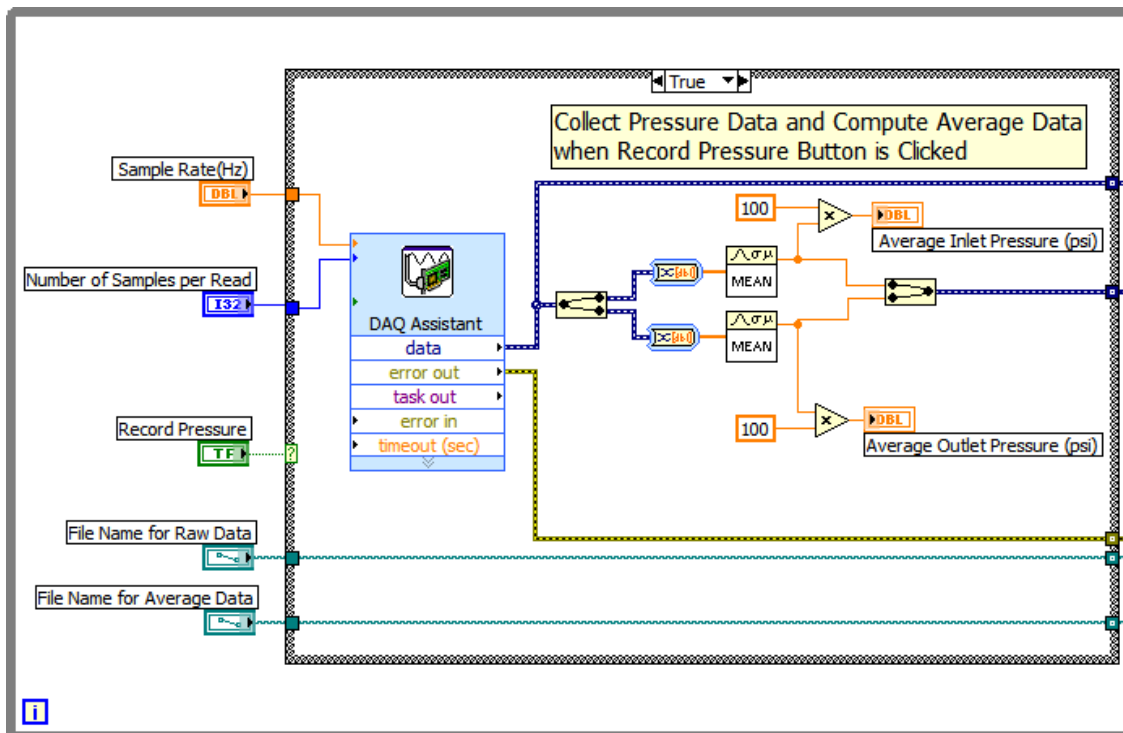

Figure 3. Reading Inlet and Outlet Pressure Data and Computing Averages
- After the **Record Pressure** button is clicked (turned **ON**), the data collection process begins. See Fig 3.